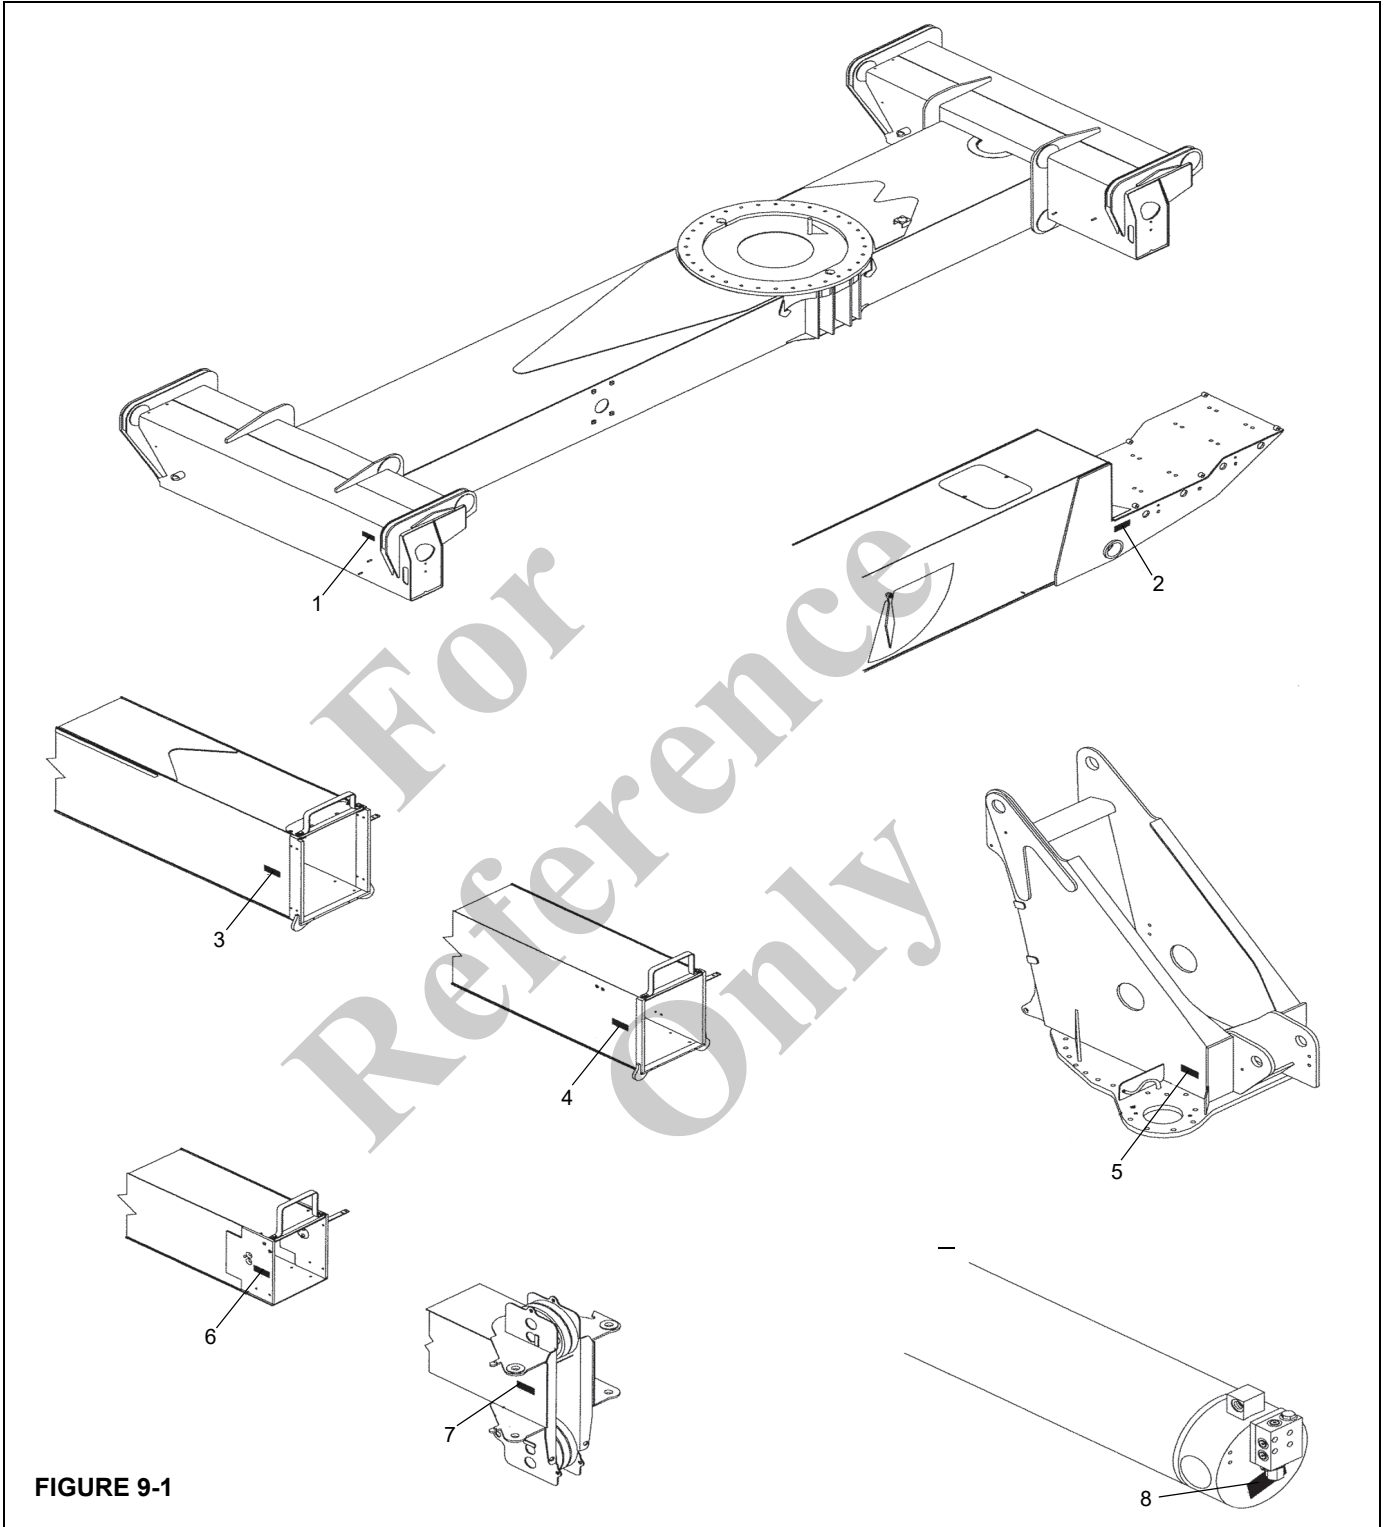

FIGURE 9-1
- 7. Serial Number Identification** - Figure 9-1 shows the typical locations for the Serial Number identification tags that are fastened to the main components of the crane.